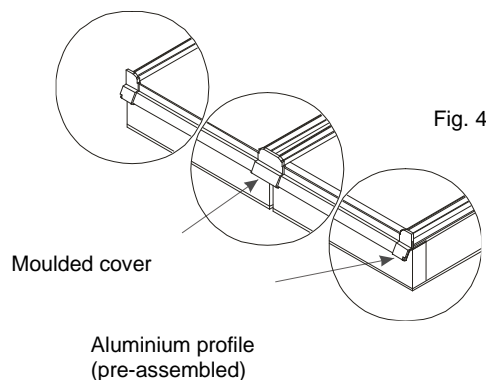

Fig. 4
10. The moulded covers are fitted now with screws (3,9 x 13 mm) to the aluminium profile at the bottom of the collectors to cover the gaps between the collectors (Fig. 4).